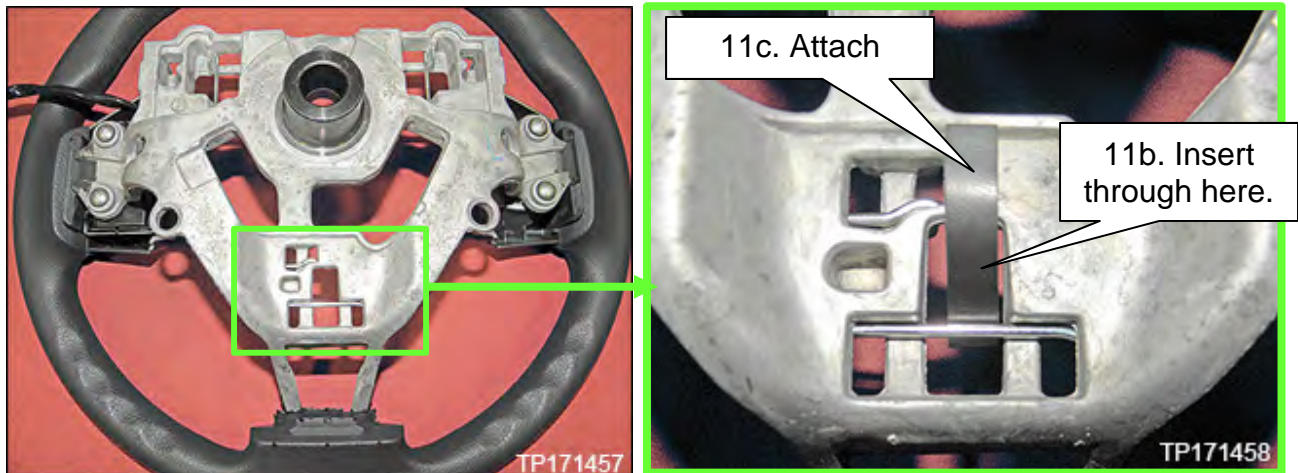

Figure 9
- Insert the rubber tape through steering wheel hole as shown in Figure 9.
- Attach rubber tape to surface of steering wheel and shown in Figure 9.